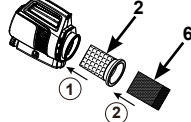

Fig 3.2
For vacuuming fine-small particles: insert the micro-filter bag (6) into the filter bag with gasket (2), making sure the micro-filter bag "wraps over" the filter bag gasket (2). Then place the entire filter bag with the micro-filter bag into the vacuum body. See fig 3.2.